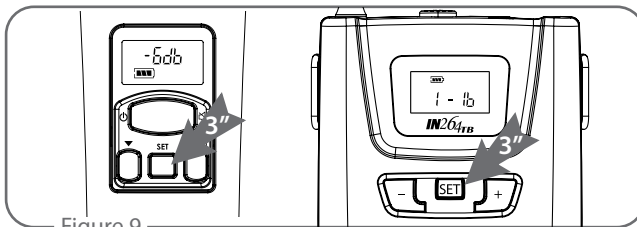

Figure 9
- (1) Press “Set” button ②① ②② button for 3 seconds, the group (G) will flash. (Figure 9)
- (2) Press “▲Up” ②③ ③① or “▼Down” ②③ ③① button to select a desired group.
- (3) Press “Set” again and the Channel (CH) will flash.
- (4) Press “▲Up” or “▼Down” button to select a desired channel.
- (5) After setting, press “Set” again to save the setting.